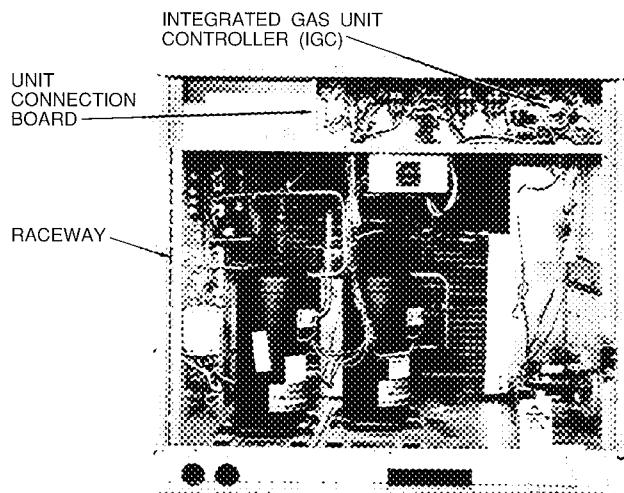

Fig. 11 — Field Control Wiring Raceway (48GJ008 Shown)
3. Feed wires through the raceway built into the corner post to the 24-v barrier located on the left side of the control box. See Fig. 11. The raceway provides the UL required clearance between high- and low-voltage wiring.